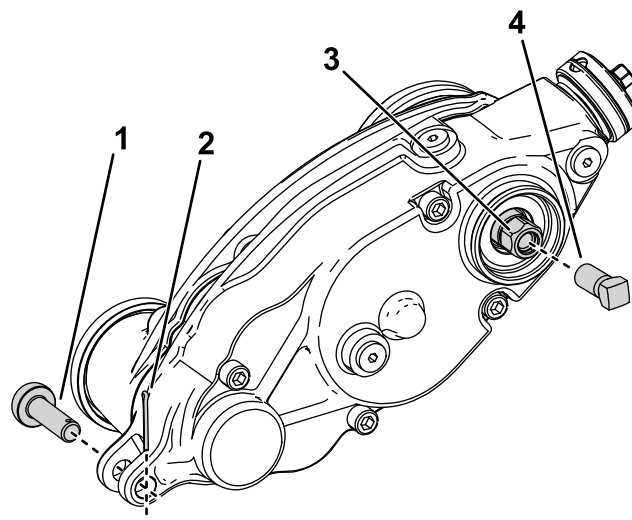

Figure 29
3. Remove the adjuster pin and cotter pin connecting the groomer drive box to the adjuster arms (Figure 29).
5. Install the reinforcement screw (Part No. 1-803022—sold separately) to the internal threads of the groomer drive hex head and torque to 13.5 N·m (120 in-lb) as shown in Figure 29.
6. Remove the groomer drive box from the cutting reel by turning the groomer drive hex-head (Figure 29).